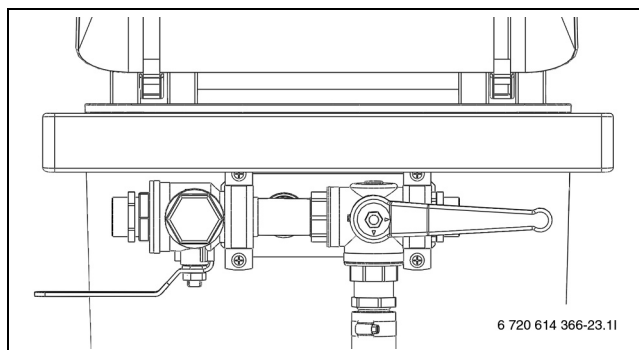

Fig. 19 Filling unit in filling position
- ▶ Turn the valves on the filling station to filling position and fill the circuit with collector circuit fluid (→ Figure 19).